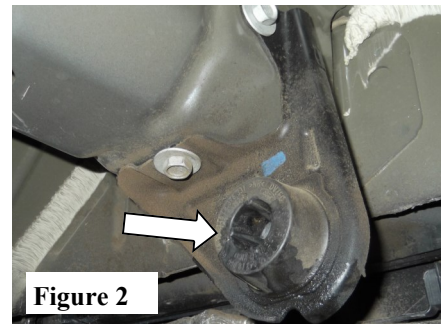

Figure 2
3. Remove hangars from rubber isolators and carefully remove the right-side muffler from the vehicle. (See Figs. 2 & 3)